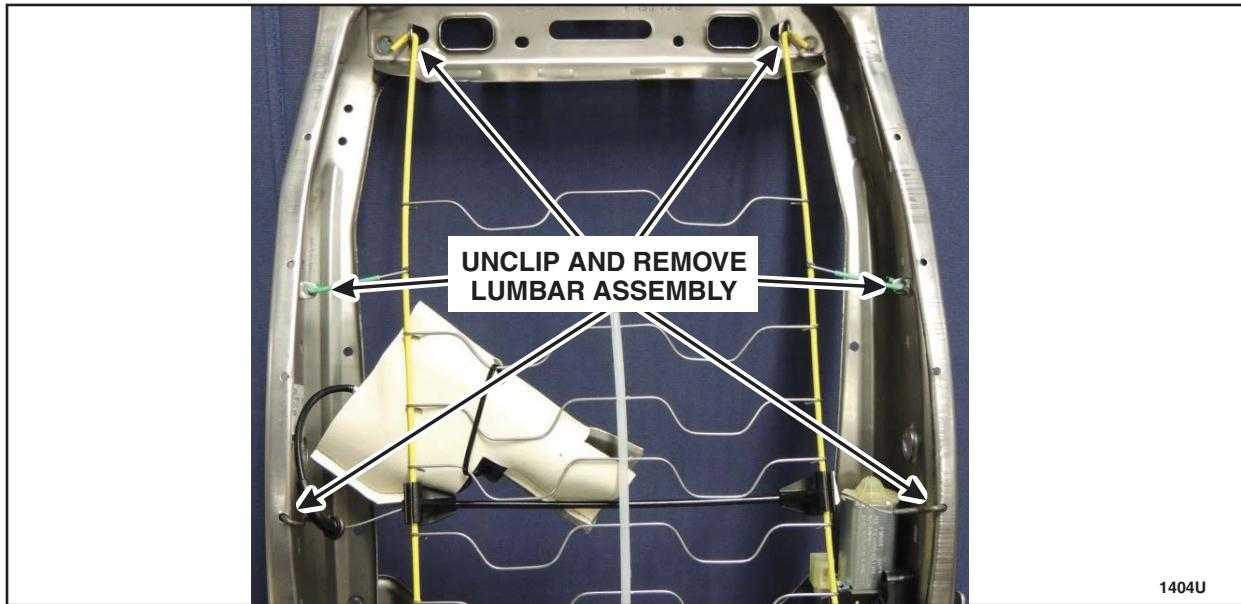

FIGURE 16
18. Remove the lumbar assembly from the backrest frame. See Figure 16.
2. Install the lumbar assembly to the backrest frame. See Figure 16.